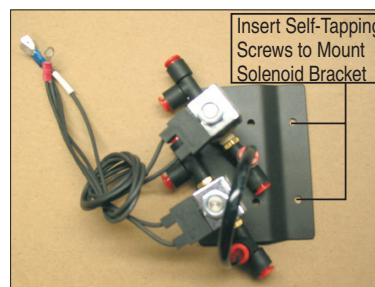

fig. 8
3. Use the #8 silver screws (G) and the #8 lock washers (H) to secure the solenoids (E) in the chosen location (Fig. 8).